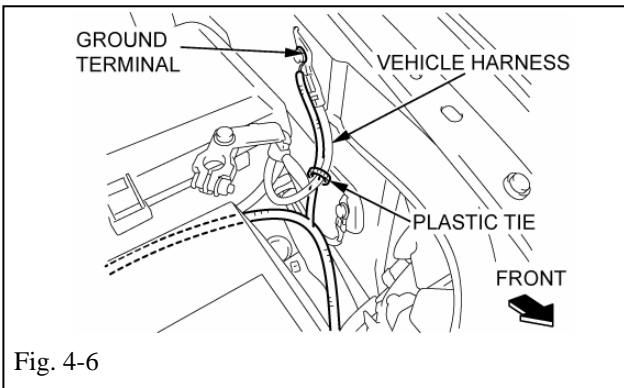

Fig. 4-6
(f) Secure the ground terminal of the E/G R W with the vehicle ground terminal using one (1) plastic tie (150 mm black). (Fig. 4-6)